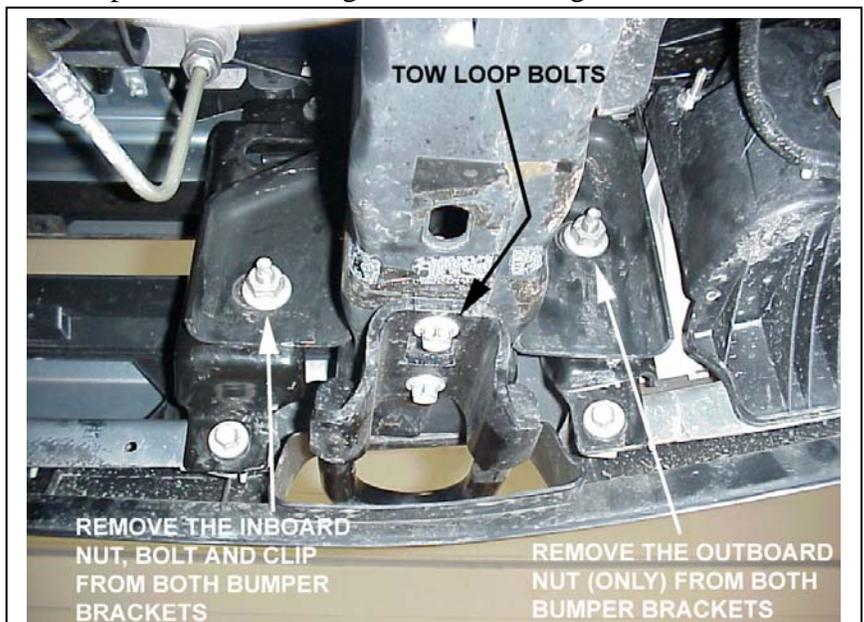

Figure 4 RH frame and bumper bracket from beneath the vehicle
3. Remove the bumper. Note the spacing between the bumper and fascia. You will want to return the bumper to this same position after the mounting kit hardware is installed. Remove the nuts on either side of each of the bumper brackets (4 total) and remove the bumper assembly. See Figure 4. Note: The plastic, top portion of the bumper (fascia) stays attached to the vehicle.
6. Remove the plastic grille insert from the bumper. It is held in place by nine (9) plastic rivets. Pry the center pin out of the rivet with a screwdriver, then lift out the rest of the rivet. It may be necessary to partially disassemble the bumper to remove the grille insert. The grille insert will not be reinstalled.
7. Remove the inboard bumper bracket bolts and retaining clips (1 each per side) from the bumper. Figure 4.